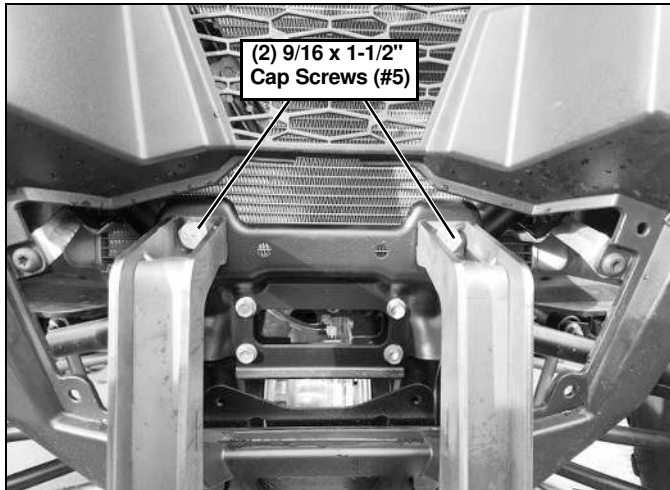
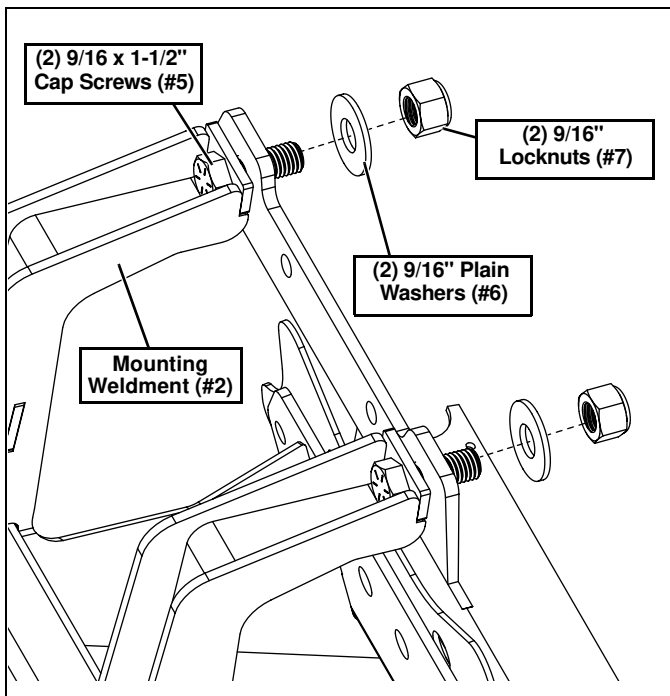

Figure 4
Figure 5
3. Slide the lower end of the Mounting Weldment (#2) behind the bumper and rotate until tight against the frame. Insert (2) 9/16"-12 x 1-1/2" Cap Screws (#5) into the top of item #2 and the vehicle frame. Then, secure with (2) 9/16" Plain Washers (#6) and (2) 9/16"-12 Locknuts (#7). (See Figure 4 and Figure 5.)